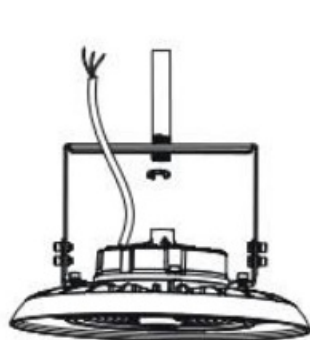

Figure 9
3. Re-screw the nuts (Figure 9).